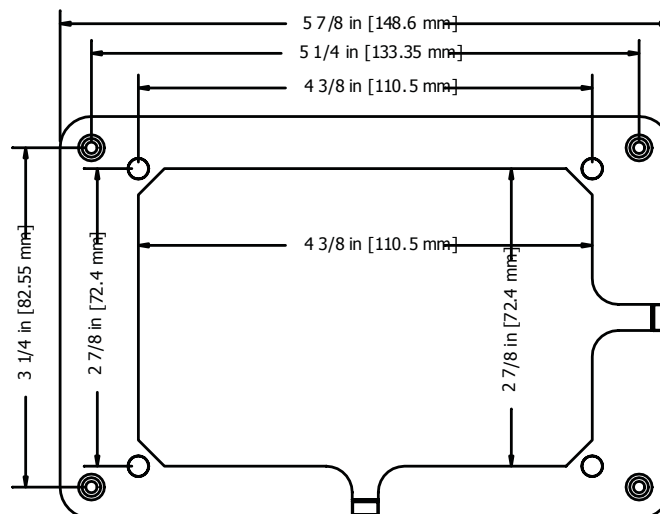

Figure 2-2, Remote Bezel Dimensions
2. Refer to Figure 2-2 for mounting dimensions. Use the 3 1/4 x 5 1/4 dimensions for mounting the bezel. Mount the remote to the bezel and run the cable through the notch or out the back of the bezel for best mounting.